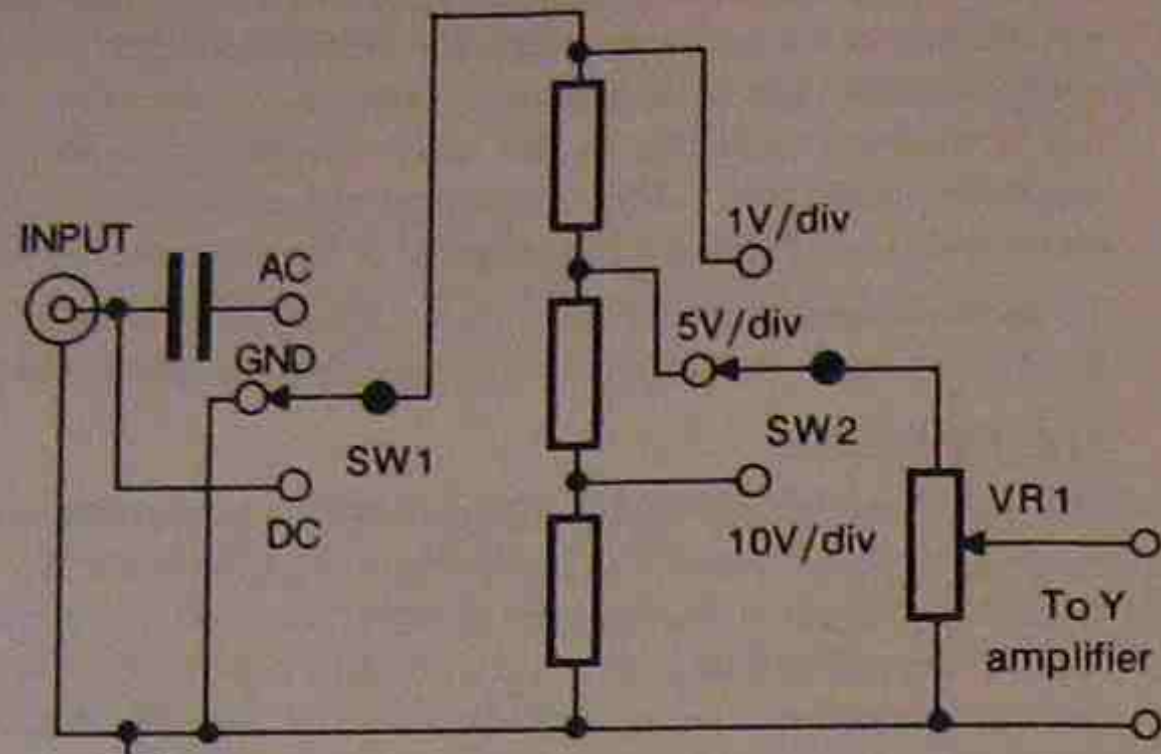

Fig.2: Input attenuators
Fig.2 shows a simplified circuit of the input switching for the signal prior to its application to the vertical (Y) amplifier. It contains a calibrated attenuator (SW2) and a non-calibrated attenuator (VR1) that are both used to reduce the level of the signal applied to the vertical amplifier. This is necessary to keep the display on the screen from exceeding the available display height. The calibrated attenuator is a switch that selects the volts/division and consists of a number of series connected resistors that form a potential divider. For example, if the setting is 10V/division on the graticule, a waveform that extends for three divisions has a peak to peak voltage of 30V.